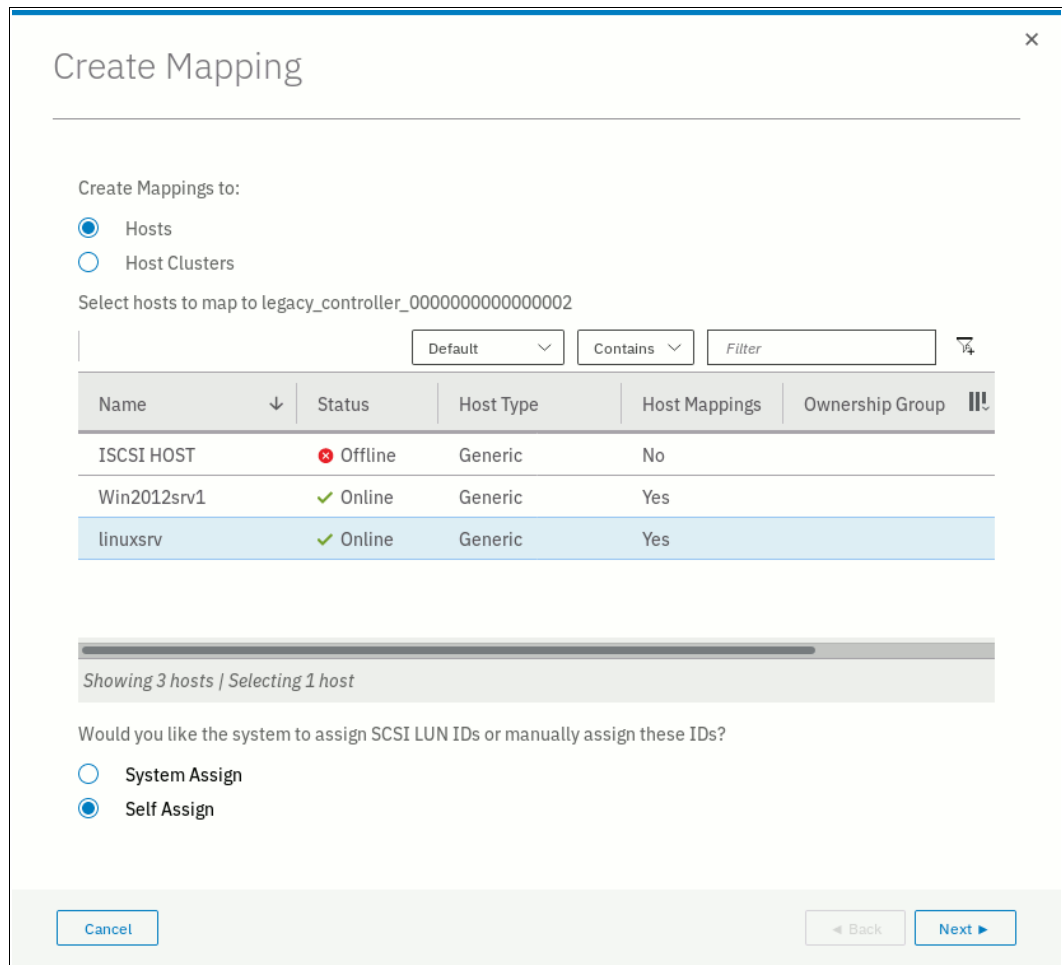

Figure 8-13 Selecting the host to which to map the new volume
13. Map the volumes to the hosts by selecting the volumes and clicking **Map to Host or Host Cluster**, as shown in Figure 8-13. This step is optional and can be bypassed by clicking **Next**.